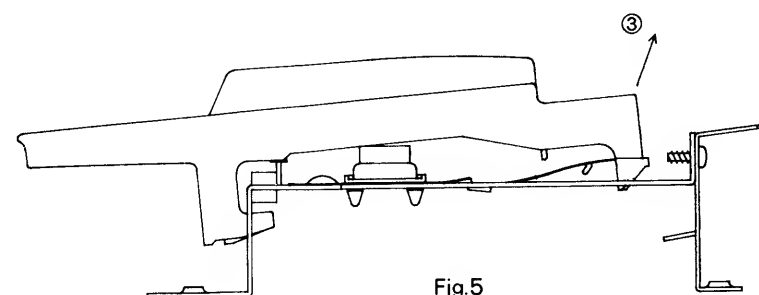

Fig.5
3. Taking care not to distort the spring, lift the key in the direction of ③ as shown in Fig.5.